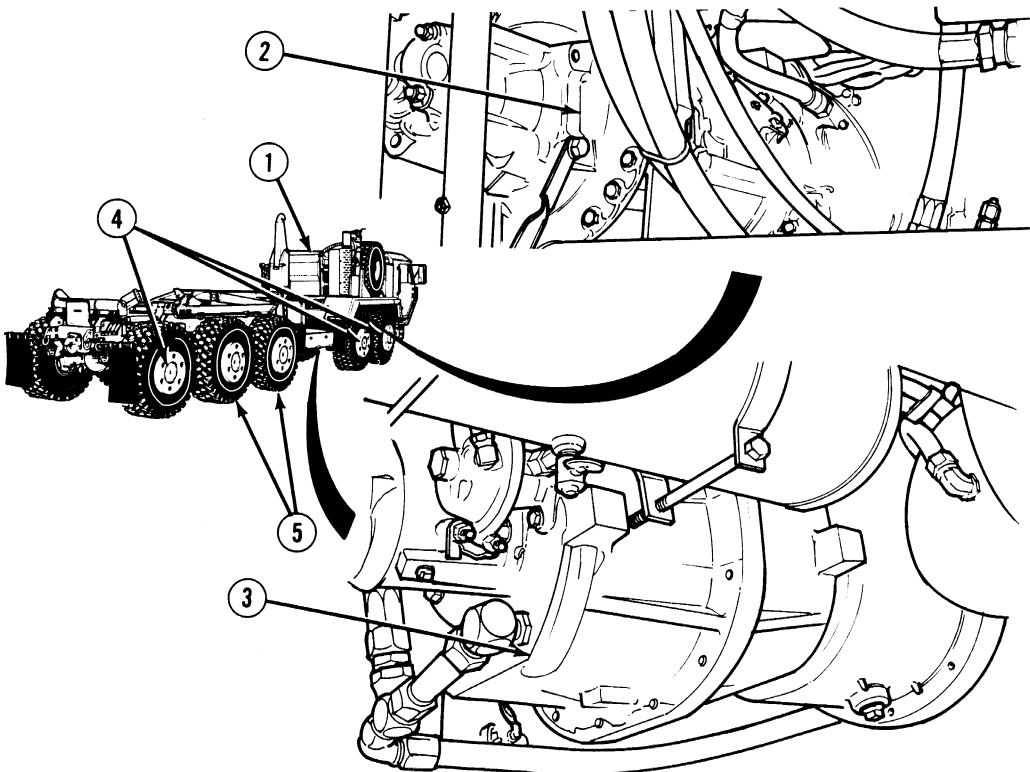

Figure 1-5. Power Train
Power for the truck is provided by a diesel engine (1, Figure 1-5) which is coupled directly to an automatic transmission (2). Power from the transmission is transferred to the transfer case (3) and on to the drive and steering axles (4) and the drive only axles (5) through a series of drive shafts and universal joints. The truck drive train is enhanced through the use of the Detroit Diesel Electronic Control II (DDEC II), or Detroit Diesel Electronic Control III (DDEC III) electronic engine controller and the Allison Transmission Electronic Control (ATEC) electronic transmission controller. The primary components of the ATEC system are an Electronic Control Unit (ECU) and shifter in the truck cab, an electrohydraulic valve module beneath the transmission gearing section that contains solenoid valves for clutch control, a throttle sensor that is activated by the accelerator pedal and an output speed sensor that relays the transmission out speed to the ECU for shifting and control functions.